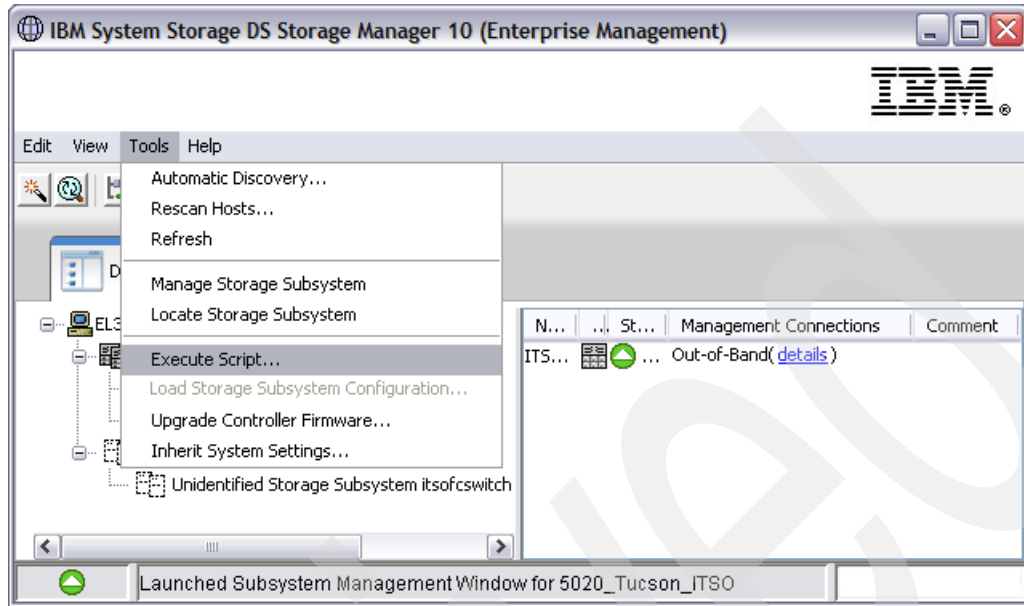

Figure 8-1 Starting the Script Editor
2. Select **Tools** → **Execute Script**, as shown in Figure 8-1, or right-click and select **Execute Script**.